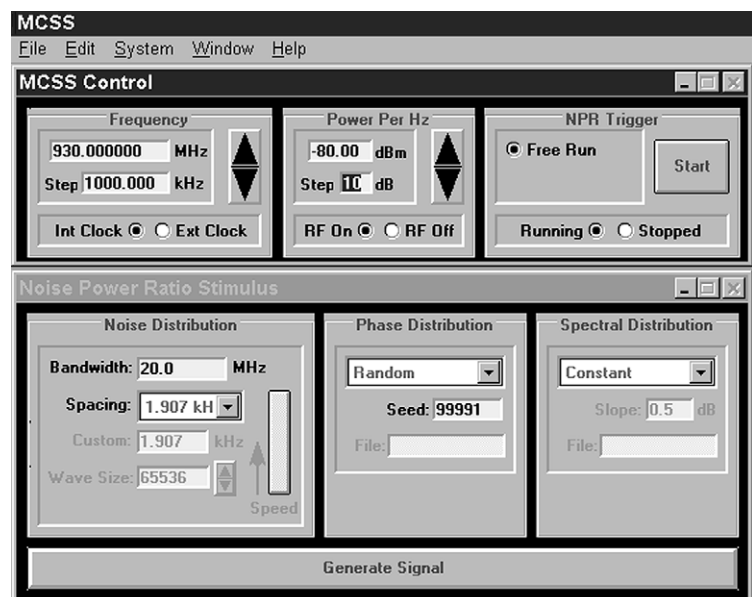

Figure 6. NPR application display
MCSS. Figure 6 shows the default screen for the NPR application. You set the center frequency for the NPR spectrum and the initial power level in the MCSS Control window. The upper frequency limit is 2.0 GHz for the E2507B, and 2.5 GHz for the E2508A. Once you generate an NPR signal, you can change its center frequency and power level in real time, that is, without generating a new NPR signal. The RF frequency and the power are set in the upconverter and do not require a new digital waveform from the DAC.
By using the Noise Power Ratio Stimulus window (also shown in Figure 6), you can specify all the special signal parameters for the noise signal. These parameters include those mentioned at the beginning of this section plus the spectral density, the phase information, and any necessary amplitude shaping.
1) Launch the NPR application by double-clicking on the NPR icon. Figure 6 (page 5) shows the default screen for NPR signal generation.